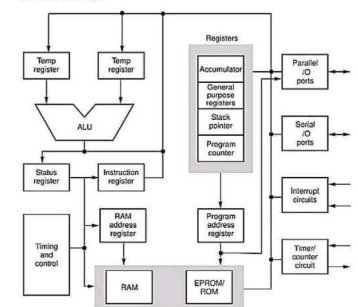

Fig. Q.63.1 Block diagram of microcontroller
• The Fig. Q.63.1 shows the block diagram of a microcontroller. The microcontroller incorporates all the features that are found in microprocessor. However, it has also added features to make a complete microcomputer system on its own. The microcontroller has built-in ROM, RAM, parallel I/O, serial I/O and Timers/counters.